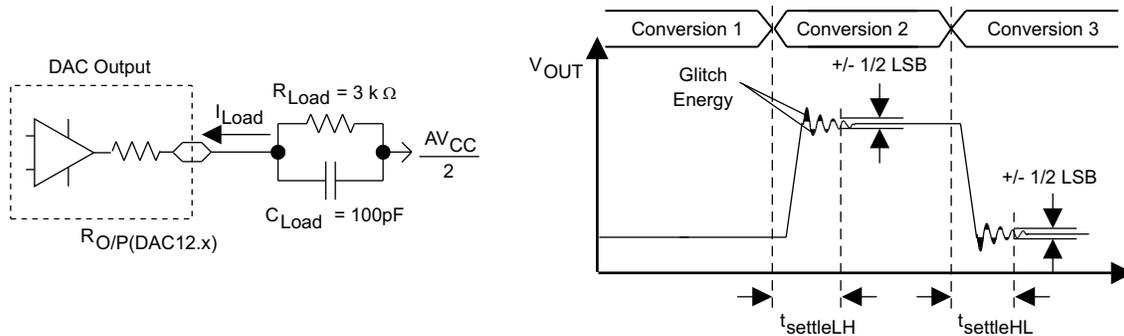
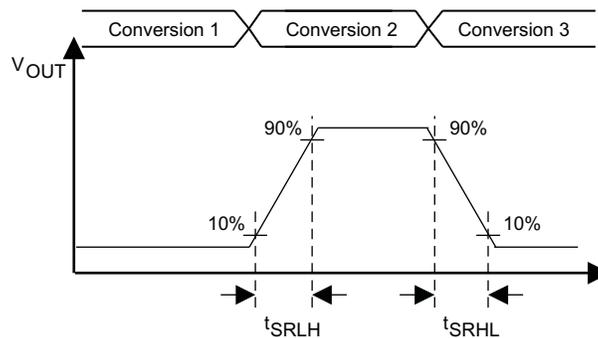

Figure 5-24. Settling Time and Glitch Energy Testing
Figure 5-25. Slew Rate Testing
$V_{ref} = V_{CC}$, DAC12IR = 1, over recommended ranges of supply voltage and operating free-air temperature (unless otherwise noted) (see Figure 5-24 and Figure 5-25)
- (1) R_{Load} and C_{Load} connected to AV_{SS} (not $AV_{CC}/2$) in Figure 5-24.
- (2) Slew rate applies to output voltage steps ≥ 200 mV.